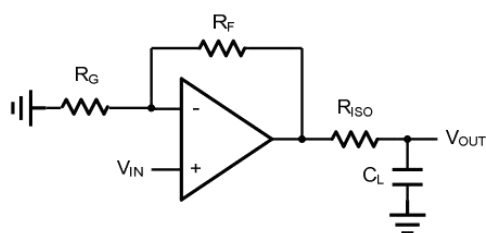
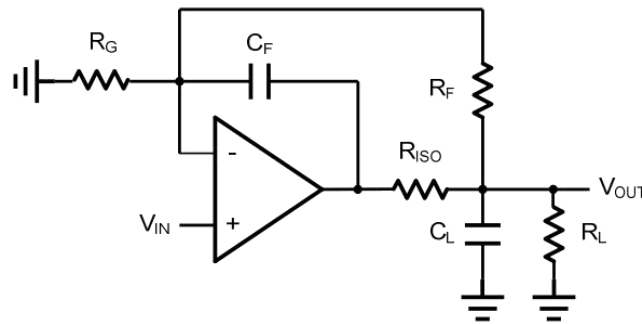

Figure 2. Indirectly Driving a Capacitive Load Using Isolation Resistor
Figure 3. Indirectly Driving a Capacitive Load with DC Accuracy
The TLV379 family is optimized for bandwidth and speed, not for driving capacitive loads. Output capacitance will create a pole in the amplifier's feedback path, leading to excessive peaking and potential oscillation. If dealing with load capacitance is a requirement of the application, the two strategies to consider are (1) using a small resistor in series with the amplifier's output and the load capacitance and (2) reducing the bandwidth of the amplifier's feedback loop by increasing the overall noise gain. Figure 2. shows a non-inverting gain circuit using the series resistor strategy. The resistor isolates the output from the capacitance and, more importantly, creates a zero in the feedback path that compensates for the pole created by the output capacitance.
The circuit in Figure 3 is an improvement to the one in Figure 2.  $R_F$  provides the DC accuracy by feed-forward the  $V_{IN}$  to  $R_L$ .  $C_F$  and  $R_{ISO}$  serve to counteract the loss of phase margin by feeding the high frequency component of the output signal back to the amplifier's inverting input, thereby preserving the phase margin in the overall feedback loop. Capacitive drive can be increased by increasing the value of  $C_F$ . This in turn will slow down the pulse response.